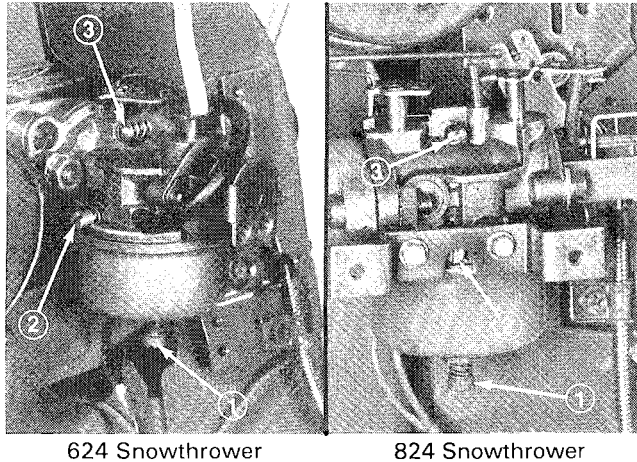

Figure 38
2. Power Adjusting Screw (Fig. 38) — Close screw by gently rotating it clockwise until a slight seating resistance is felt. Next, rotate power adjusting screw 1 full turn — 360° — counterclockwise.
3. Idle Mixture Screw (Fig. 38) — Close screw by gently rotating it clockwise until a slight seating resistance is felt. Next, rotate idle mixture screw 1-1/2 full turns counterclockwise.
5. Rotate power adjusting screw (Fig. 38) clockwise — in — 1/8 turn at a time until engine misses because of a lean gasoline mixture. Then rotate screw counterclockwise — out — 1/8 turn at a time until engine runs unevenly because of a rich gasoline mixture. Next, rotate power adjusting screw clockwise, back to the midpoint between the rich and lean setting so engine runs smoothly.
6. Move throttle backward to idle speed. Next, rotate idle speed screw (Fig. 38) until engine idles fast — 1750 rpm.
7. Rotate idle mixture screw (Fig. 38) clockwise — in — 1/8 turn at a time until engine begins to miss because of a lean mixture. Then rotate screw counterclockwise — out — 1/8 turn at a time until engine runs unevenly because of rich mixture. Next, rotate idle mixture screw clockwise, back to the mid-point between rich and lean setting.
8. Again, rotate idle speed screw (Fig. 38) until engine idles at 1750 rpm.